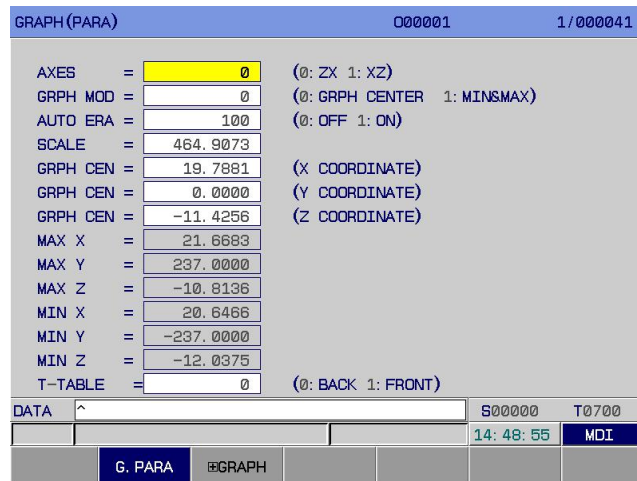

Fig.3-5-1
Press **GRAPH** to enter the following graph page. This page contains 2 display interfaces: **[graphical parameter]** and **[GRAPH]**, which can be switched through corresponding softkeys. (See Fig.3-5-1):
1) Graphical parameter interface: Press **[graphical parameter]** to enter the graphical parameter interface, as shown in Fig.3-5-1.